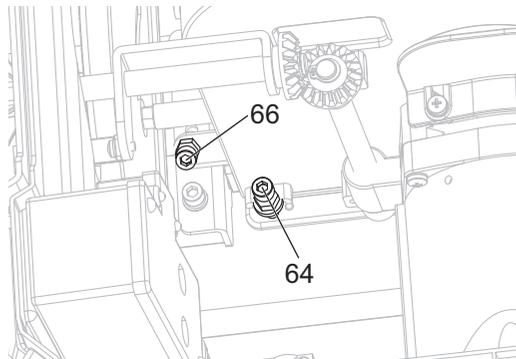

Fig. 35
- > If the blade stops beveling before it gets to 90°, loosen the 90° stop screw [64] (located on the left under the table) (Fig. 35) with the hex key (not included), and then adjust it to 90°.